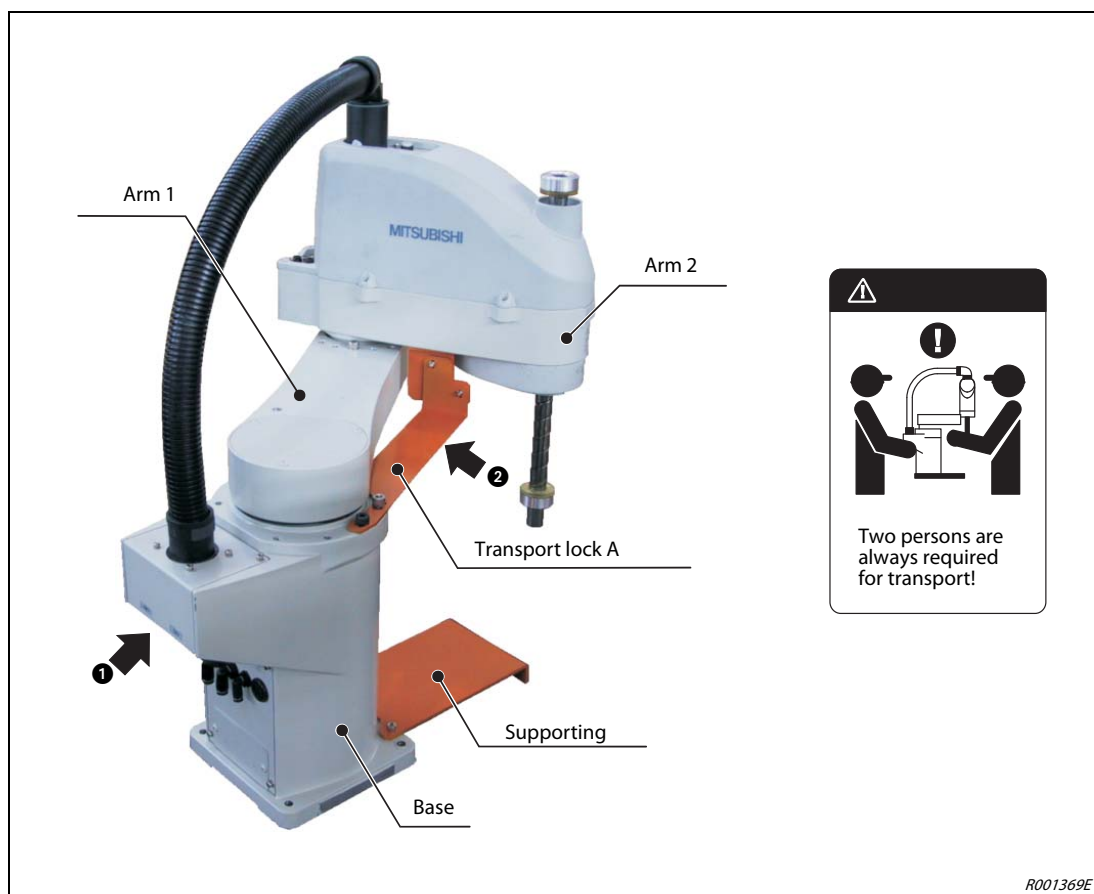

Fig. 3-7: Holding points on robot arm
- *Always carry the robot arm at holding points ① and ②. Never carry the robot arm at the covers because this may result in damages.*
- ① Two persons are always required for transport. When doing so, always carry the robot arm at points ① in the base area and ② on arm 2, as well as at transport lock A (see Fig. 3-7). Never carry the robot at the sides or at its covers because these may become loose and can destroy the robot arm.